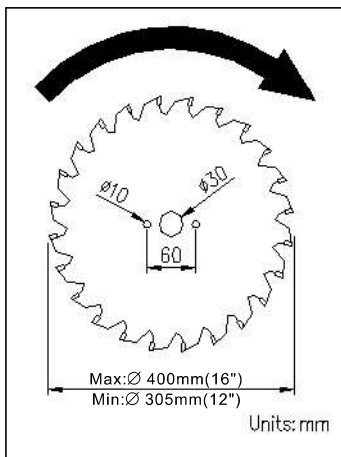

Fig.1-4-1
1. Fig.1-4-1 is the main saw's size, running direction.